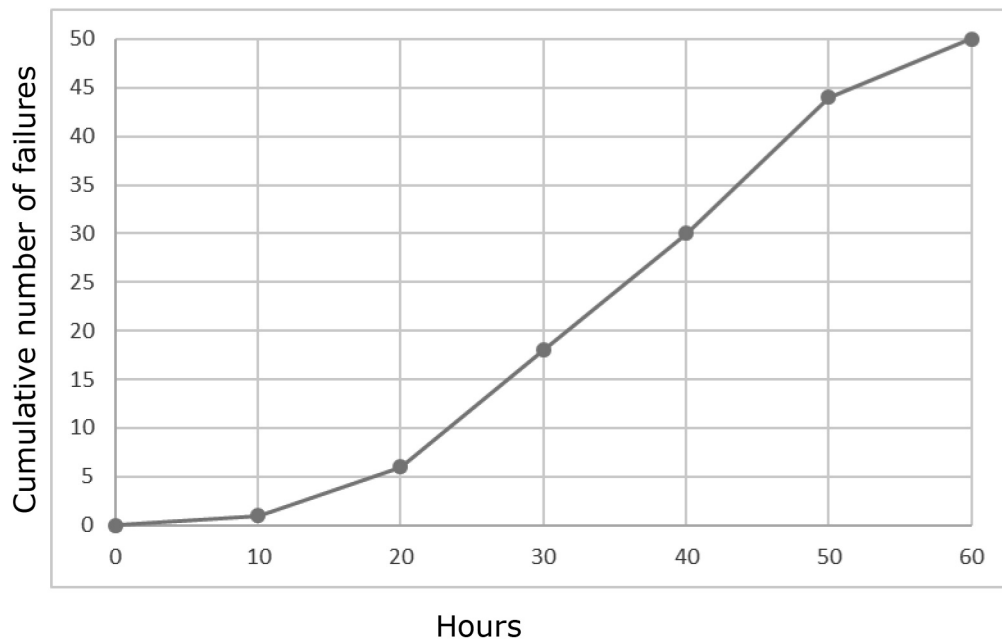

Figure 2
- b) A factory collected data on the operational life of the tools on one of their machines. The time to failure of 50 tools was recorded as shown in the table and graph in Figure 2.